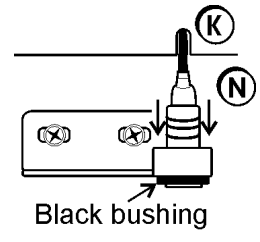

Figure 5-6
20. Match the pins on the yellow connector with the socket on the door. Press the connector completely into the socket and slide the strain relief down until no yellow is visible on the plug as shown in “N” of Figure 5-6.